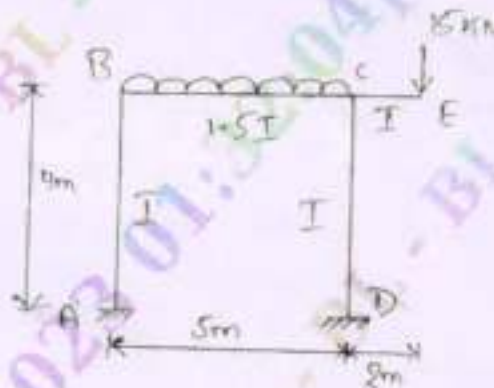

Fig. Q2
- 2 Analyze the portal frame shown in Fig. Q2 by slope deflection method. Draw BMD and SFD.